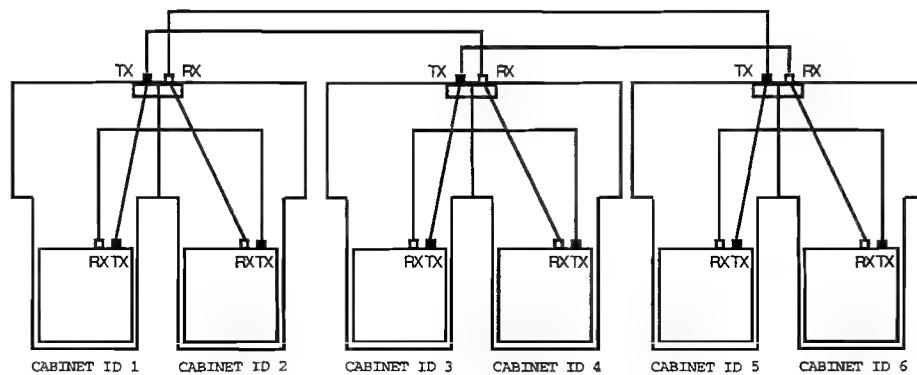
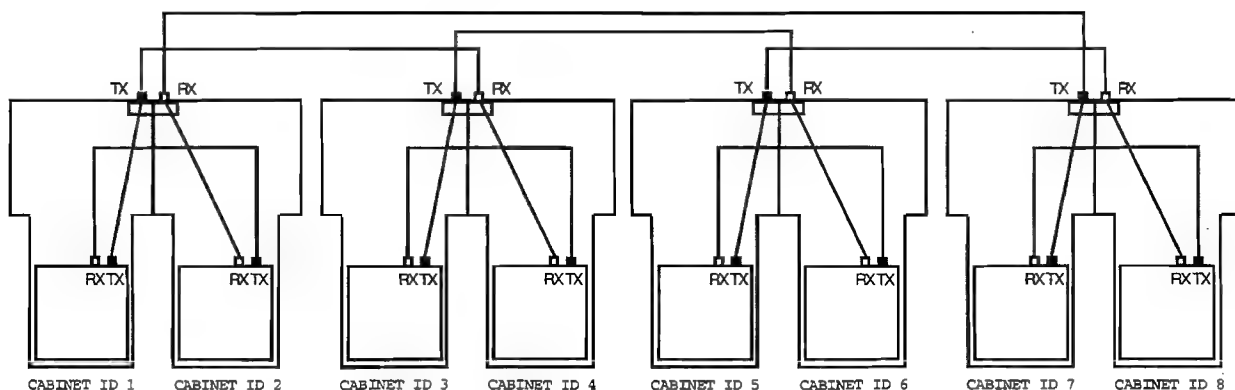

FIGURE 24: SIX PLAYER LINKING DIAGRAM
FIGURE 25: EIGHT PLAYER LINKING DIAGRAM
6. To link additional machines, add SLAVE machines (cabinets 3,4,5,6,7, and 8), connecting TX outputs to RX inputs, as shown in Figure 24 (six players) and Figure 25 (eight players).